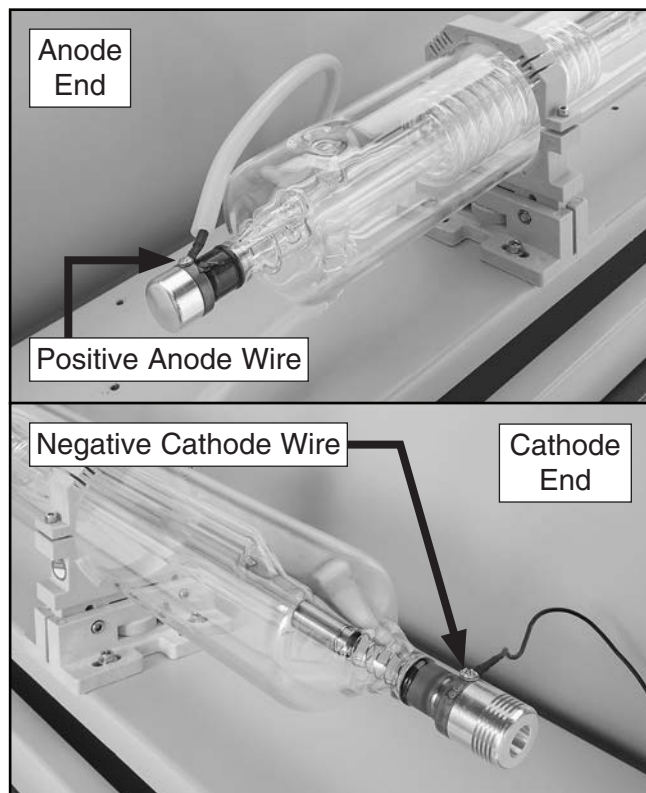

Figure 101. Location of laser tube anode/cathode wires.
18. Remove any oxidation on terminals with isopropyl alcohol, then install anode wire on positive (+) terminal (see **Figure 101**).
19. Remove any oxidation on terminals with isopropyl alcohol, then install cathode wire on negative (-) terminal (see **Figure 101**).